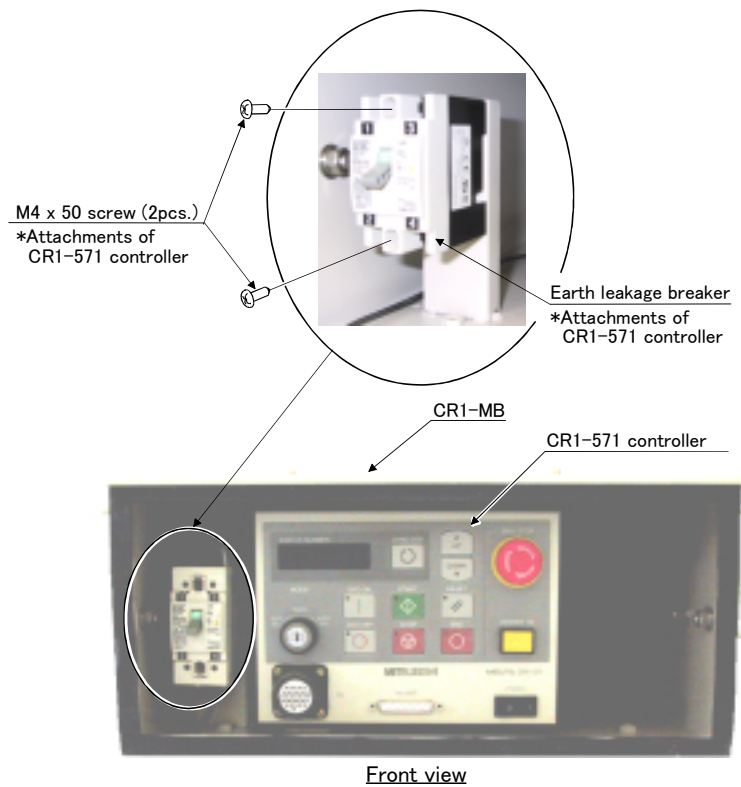

Fig.3-8 : Installation of earth leakage breaker
Fig. 3-8 shows the installation method of earth leakage breaker.
- 1) Install the earth leakage breaker securely with attached installation screw (M4x20-2) as shown in the Fig. 3-8. The upside is ON in the installation direction.
(4) Connecting the power cable, grounding cable, fan power cable